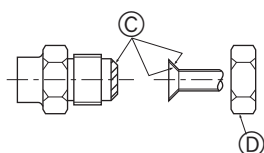

Fig. 4-2
(A) (Fig. 4-2) (mm [inch])
(B) (Fig. 4-2)
## 4.2. Connexion des tuyaux (Fig. 4-2)